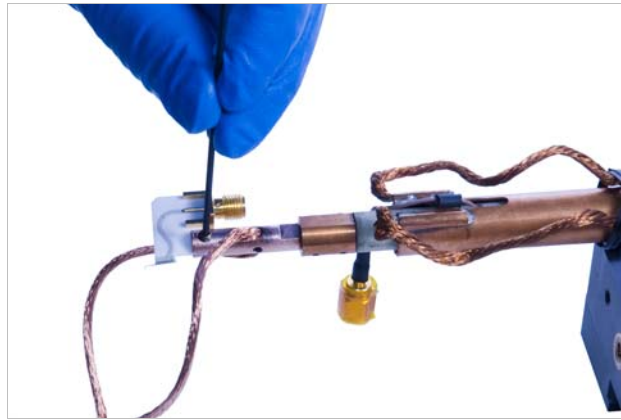

FIGURE 3-27 Loosening the probe mount set screws
4. Using the 1.5 mm hex driver, loosen the visible probe mount set screw (FIGURE 3-27).